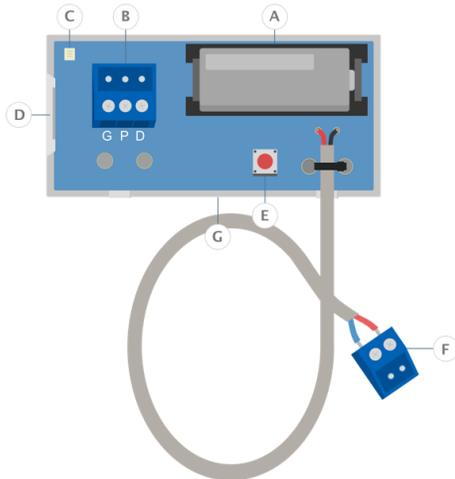
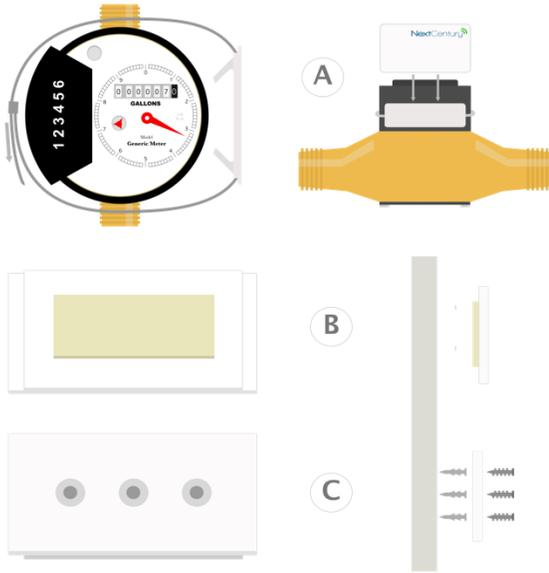
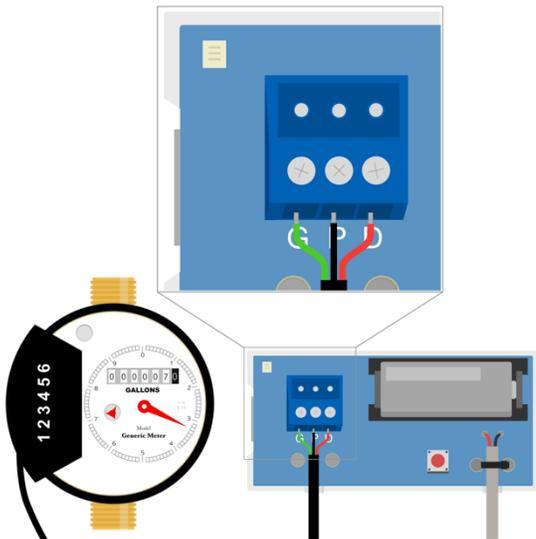

Figure 1 EN-201 Hardware
Figure 3 Mount the Pulse Converter
Figure 4 Neptune Wiring (from Meter)
2. Remove the three-terminal Degson Connector (Figure 1-B) from the board by pulling up on it.
3. Press the two-terminal Degson Connector from the Pulse Converter (Figure 1-F) onto the two-terminal Connector on the Transceiver.
Note: It is recommended to ensure that the two-terminal Degson Connector wiring is secure (Figure 1-F) as these connections can come loose during shipping.
1. The meter mounting plate can be attached to an Encoded Meter using the supplied 16-inch zip tie. Simply slide the Pulse Converter onto the mounting plate (Figure 3). The wall mounting plate (Figure 1-G) can be discarded.
2. Remove the 3M Double Sided Protective Cover and place the wall mounting plate (Figure 1-G) onto a clean wall or surface.
- Use the mounting screws and anchors to secure the wall mounting plate (Figure 1-G) to the wall.
The Connection Status LED (Figure 1-C) provides a way to easily check a successful connection between the Pulse Converter and an Encoded Meter. The following table (Figure 4) shows what the different LED patterns indicate after pressing the Test Connection button (Figure 1-E):